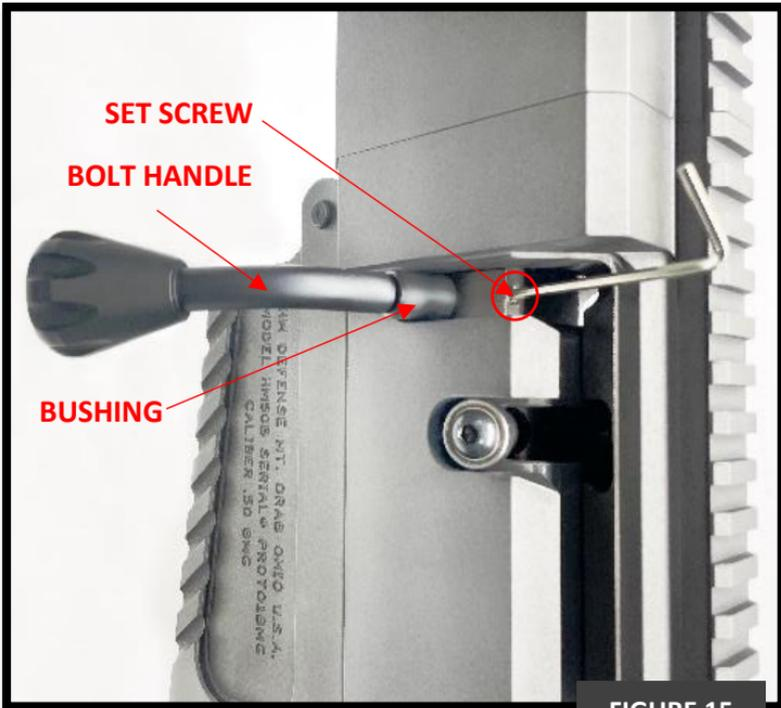

FIGURE 15
6. Insert the bolt handle and bolt handle bushing into the bolt handle recess and tighten the bolt handle set screw into its recess, located on the top of the bolt handle shaft, with the 3/32 hex key. We recommend using non-permanent Loctite on the threads of the set screw. Secure tightly. **SEE FIGURE 15, PAGE 37**